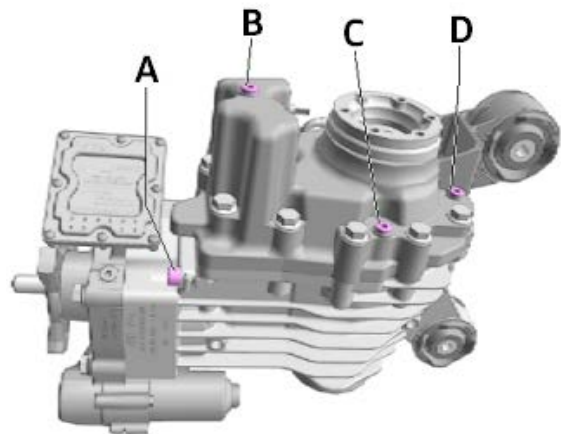

Figure 1. Drain plug for BorgWarner clutch oil (A), oil filler plug for BorgWarner clutch oil (B), gear oil drain plug (C), oil filler plug for gear oil (D).
- The image at right (Figure 1) shows the correct drain and fill plugs.